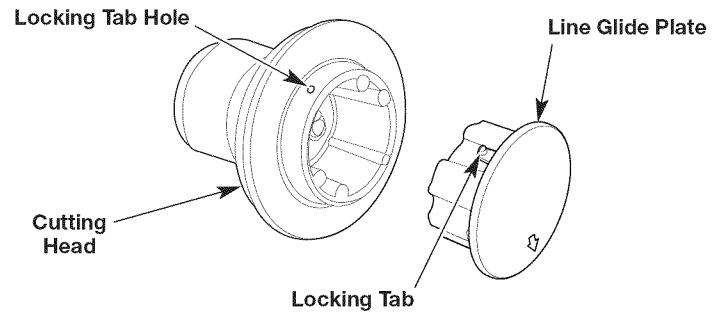

Fig. 17
2. Insert a small Phillips screwdriver into the locking tab hole and push the locking tab inward (Fig. 17). At the same time, pull the line glide plate out of the cutting head.